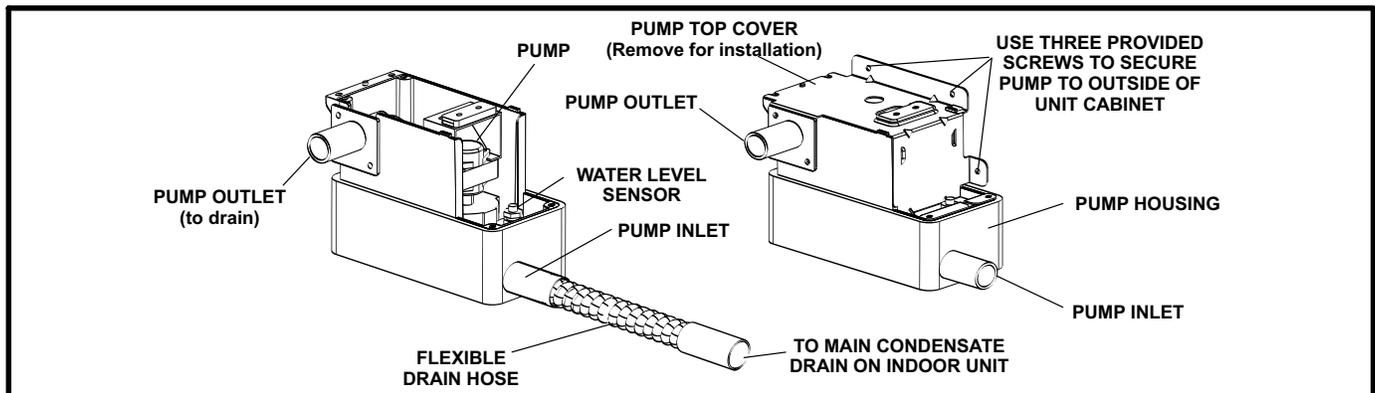

FIGURE 1. Parts Arrangement
- 2 - Use the provided screws to secure the water pump to the outside of the cabinet. Make sure that screws are tightly fastened. See figures 1 and 2.
- 4 - Connect the water pump power wiring plug and water level sensor plug to the appropriate jacks on the unit control. Refer to the specific unit wiring diagram on the indoor unit. Connect the green ground wire to an earth ground. See figures 1 and 3 and wiring diagram on unit.